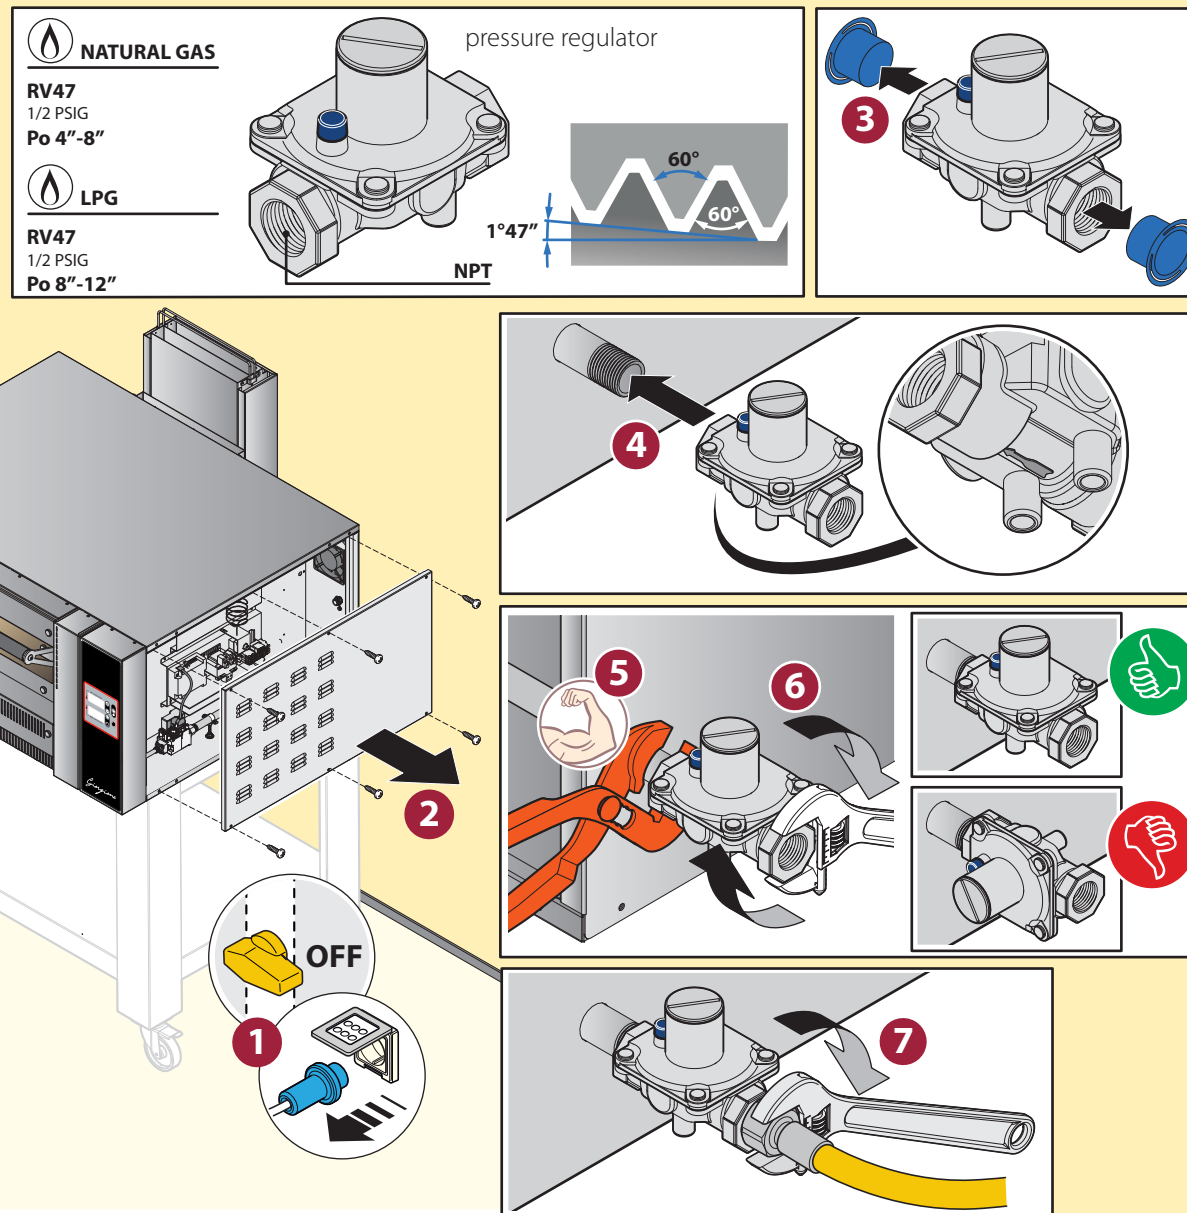

Fig. 24
- ► **Fig. 24** (UL/CSA versions) a **NGO hose** - cylindrical American national thread for gas discharges or **NGS hose** - cylindrical American national thread for gas. A **pressure regulator** must always be interposed between the oven and the appliance (not supplied - make sure it complies with the regulations in force in the country of use). At the end of the installation, the pressure regulator must be set according to the instructions given in ► **Fig. 26**